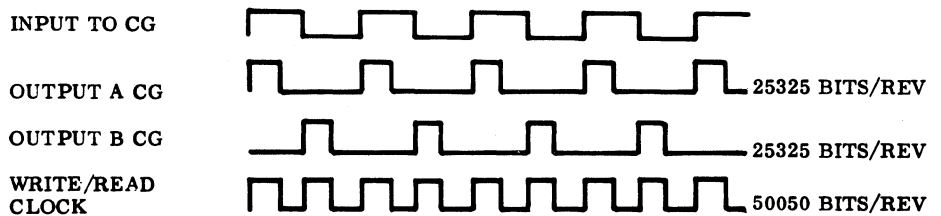

Figure 3-7. Clock Generation Timing
3.3.2.1 READ/WRITE CLOCK GENERATION. From the clock read amplifier, the clock is coupled to the input of two identical clock generator circuits which shape the symmetrical clock into pulses of predetermined width. The clock generator one-shot multivibrator will trigger on either the positive or negative-going edge of the clock depending on which input is used. (See Figure 3-7.)